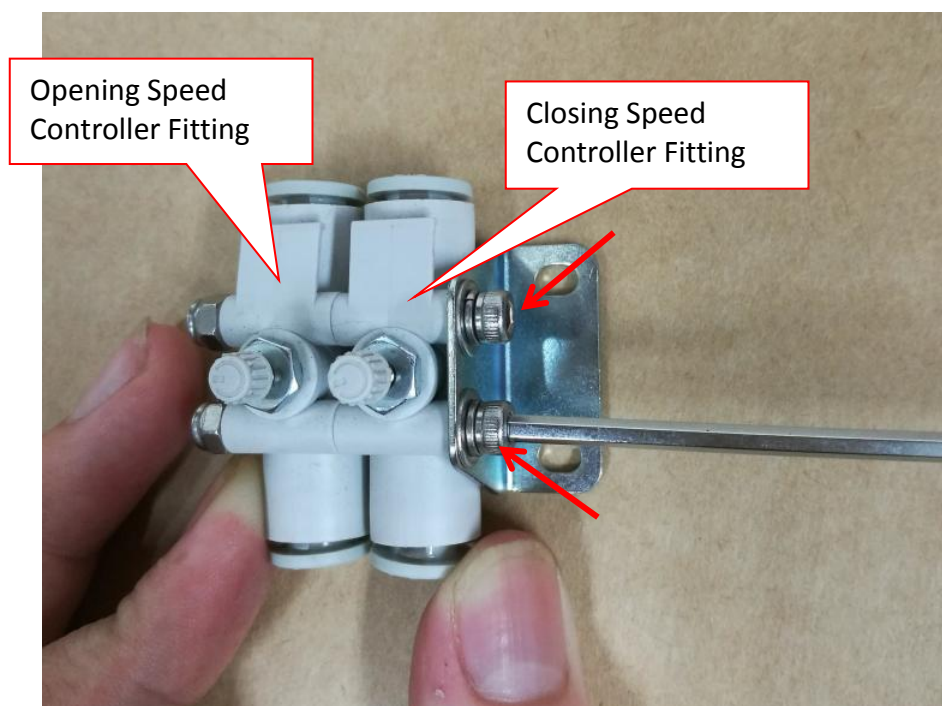

Figure 2 Speed Controller Fitting Removal
3. Loosen 2 x Screws & remove defective Speed Controller Fitting as shown in Figure 2